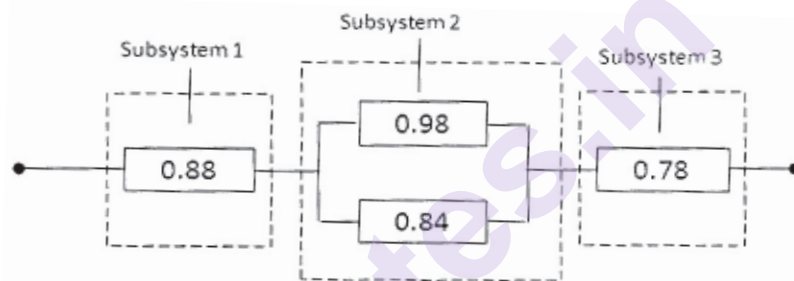

Figure 2
b) A system consists of three subsystems with elements as connected is shown in figure 2. Determine the reliability goal of each subsystem using minimum effort method if the system reliability is to be improved to a value of 0.88. [6]